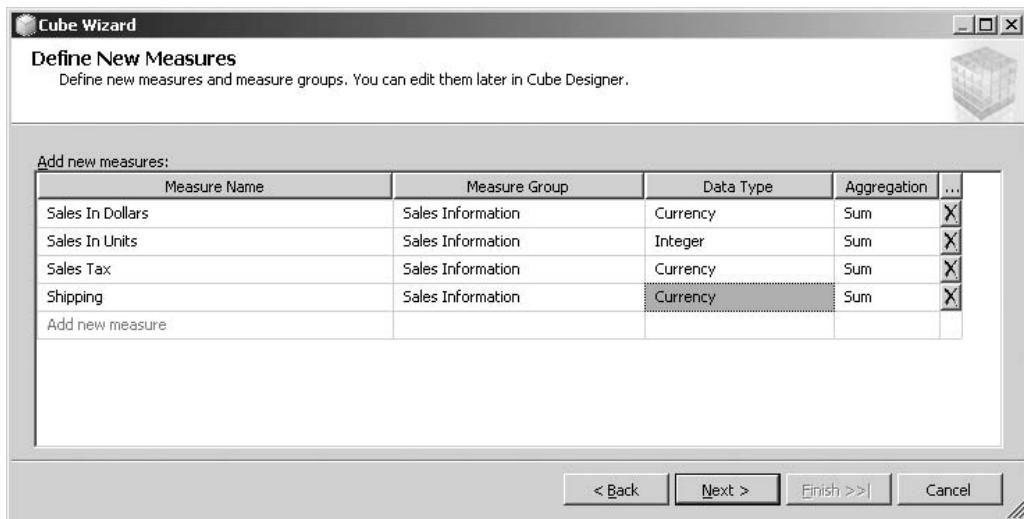

Figure 6-26 After defining the measures in the Cube Wizard
25. Select Currency in the Data Type column. Sum should be selected by default in the Aggregation column. The Define New Measures page should appear as shown in Figure 6-26.